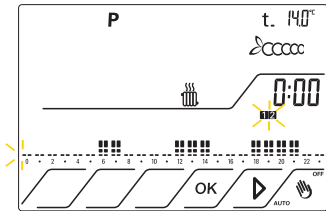

Fig.27
a) Copy the programming . Fig.27
b) Set the programming Fig 27